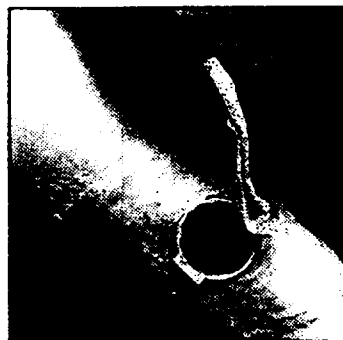

Fig. F.9
- d. Using a soft cloth, tissue, paper towel or a cotton swab, gently clean the skin area at the treatment site to remove the coupling gel. Remove any gel that may have accumulated on the RAF as this may cause difficulty in locking the THM into the RAF (Fig. F.9).